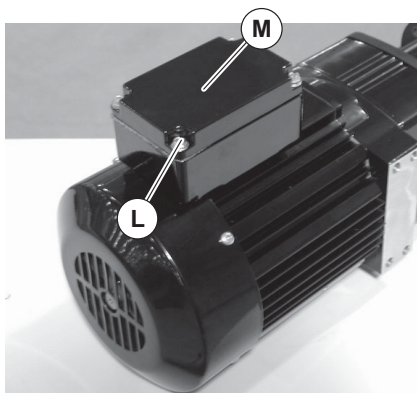

Figure 7
- a. Loosen terminal box screws (Figure 7, item L) and remove cover (M).